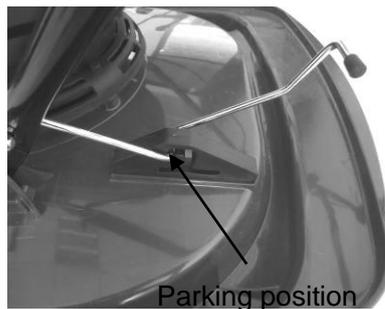

Fig.11B
2. Lifting the hook to the “Parking” position. (Fig.11B)